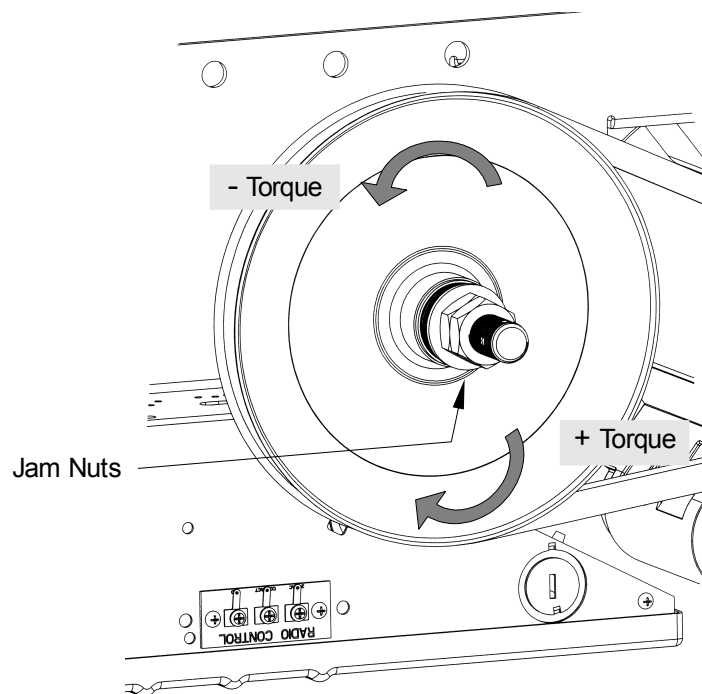

Figure 28 - Clutch Adjustment
1. Unlock the jam nuts with two (2) 7/8" keys, refer to Figure 28.